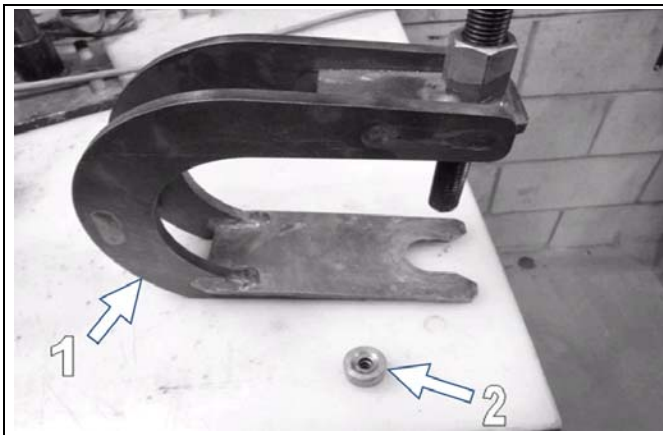

Figure 24
Use Camoplast extractor # 2000-00-1050 (article 1, Figure 24), and the following procedure to make the replacement:
- If there is no bolt, use the alignment sleeve (article 2, Figure 24) to locate the extractor.